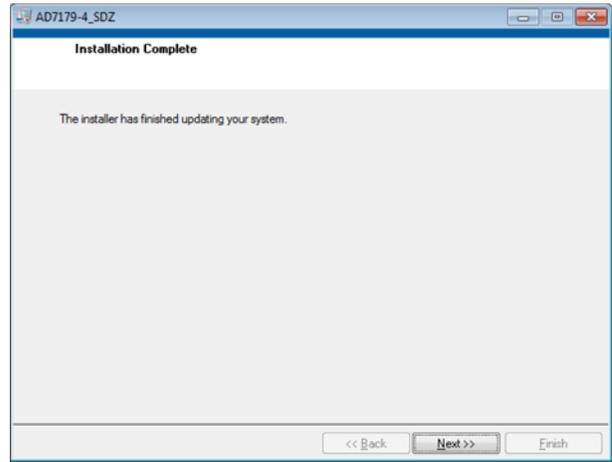

Figure 8. Installation Status Window
- EVAL-AD4110-1SDZ board software installation (see Figure 4 to Figure 8).
- A dialog box informs the user when the installation is complete. Click **Next>>** (see Figure 8).